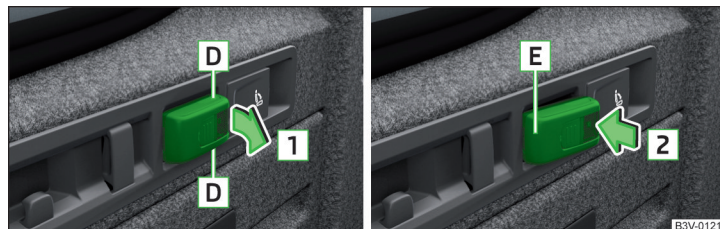

Fig. 134 Removable light: removing / inserting
- **To remove**, hold the light in the area **D** and swivel in the direction of arrow **1** » Fig. 134.
- **To insert**, first of all insert the light with the rear part **E** into the mount » Fig. 134 and then push the light in the direction of arrow **2** until it audibly clicks into place.